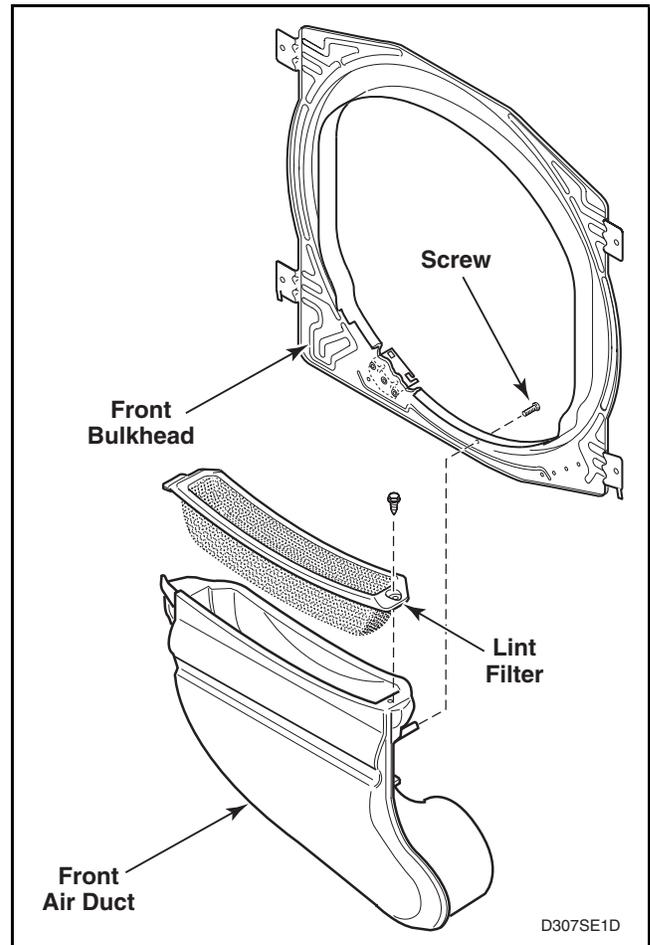

Figure 23
- e. Remove three screws holding the air duct to the front bulkhead inside cylinder. Refer to *Figure 23*.
- Remove screws holding air duct to front bulkhead (inside cylinder). Refer to *Figure 23*.